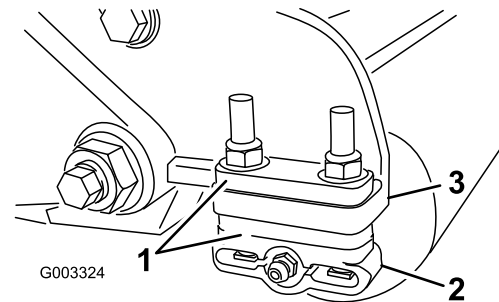

Figure 11
1. Adjust the rear roller brackets (Figure 11) to the desired height-of-cut range by positioning the required amount of spacers below the side-plate mounting flange (Figure 11) per the Height-of-Cut Chart (page 9).